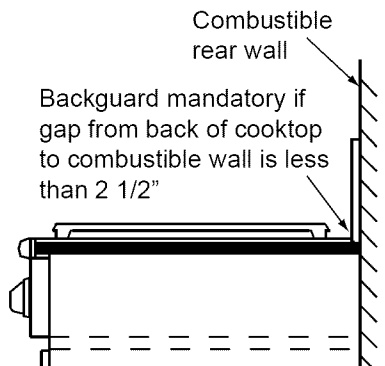

FIGURE 2
- Installation of a non-combustible material* (up to the hood) or a backsplash is always recommended, and mandatory if the distance to the back wall from the cooktop is less than 2 1/2" (Figure 2). When installing a backguard, use only Dacor model numbers AEB3609, AEB3612 (ESG366), AEB4809 or AEB4812 (ESG486).